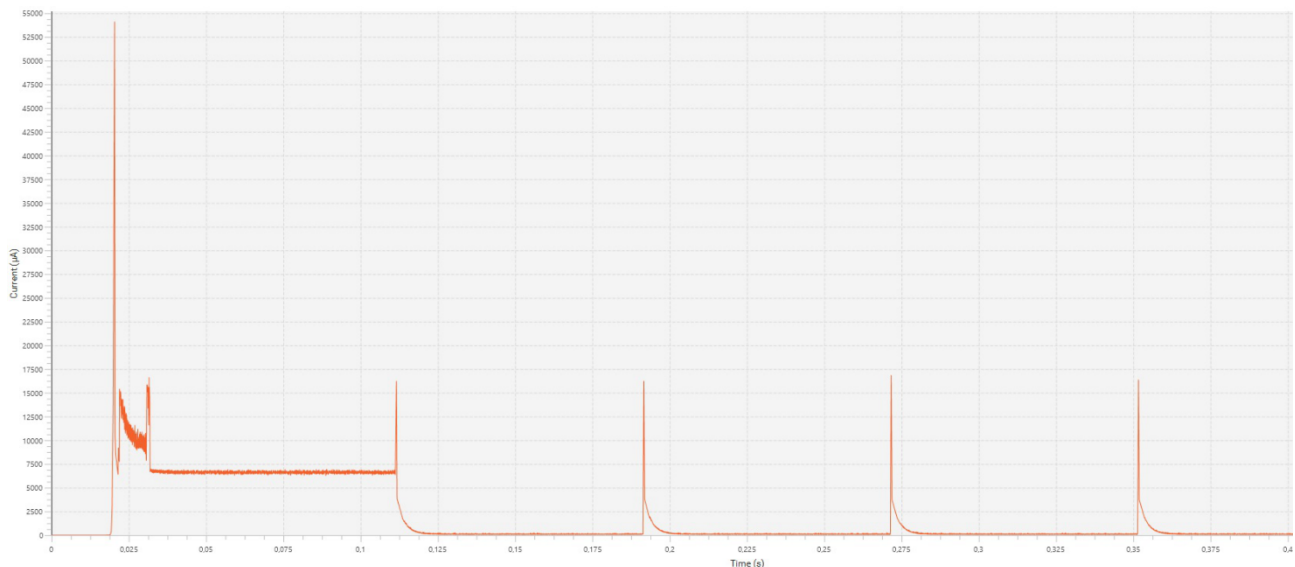

Fig. 1. Typical current consumption waveform after power up
- During first 0.01 seconds after power up, sensor consumes up to 55 mA, and then during 0.1 second average current consumption up to 14 mA (see Fig. 1). After that sensor switches to the normal current consumption mode.